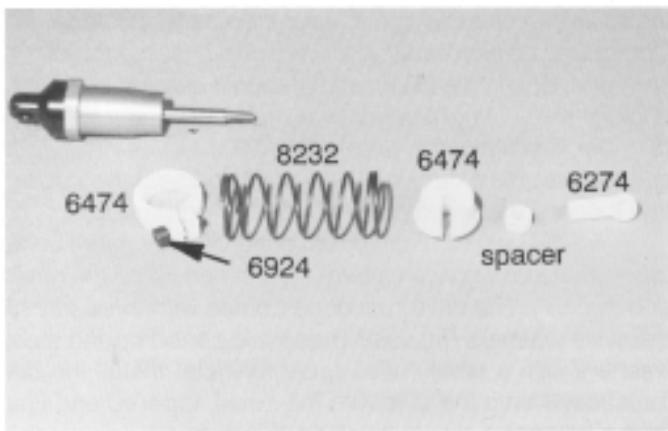
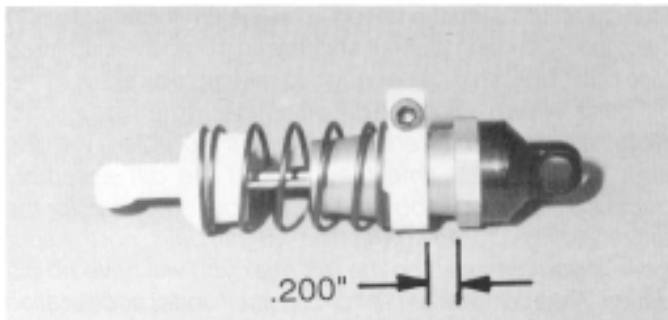

Fig. 56
Fig. 57
□ **Figs. 56 & 57** In bag 4 you will find the #6474 spring clamp and cup parts and one #6924 4-40 x 3/8" SHCScrew. (1) The spring clamp has one hole that is slightly larger than the other. Install the 4-40 x 3/8" screw through the larger hole and then thread it into the smaller hole. (2) Now slide the spring clamp collar to the top of the shock body and tighten it just enough to keep the collar from moving (fig. 57). (3) Make sure the the side with the thin flange is away from the black aluminum shock cap.
(4) In the same bag you will find one #6274 plastic ball end cap, one nylon spacer, and one #8232 black shock spring. Slide the nylon spacer onto the shock shaft and then (5) thread the #6274 plastic ball end cap onto the shaft threads. (6) We now want to install the #8232 black shock spring and #6474 spring cup. First make sure the shaft is all the way out and that the nylon spacer is against the plastic ball end cap. (7) Slide the spring over the shock, (8) collapse it so that you can install the spring cup. When the spring cup is installed it should fit down over the nylon spacer and the end of the plastic ball end cap. (9) Collapse the shock a few times to make sure it is free and smooth (fig. 57).
(10) Now we need to adjust the tension setting on the spring and spring collar to get the correct ride height on the car. Adjust the collar so that there is a .200" gap between the collar and the hex portion of shock body. (11) Tighten down the spring clamp collar but not too tight—it just needs to keep the spring collar from moving.